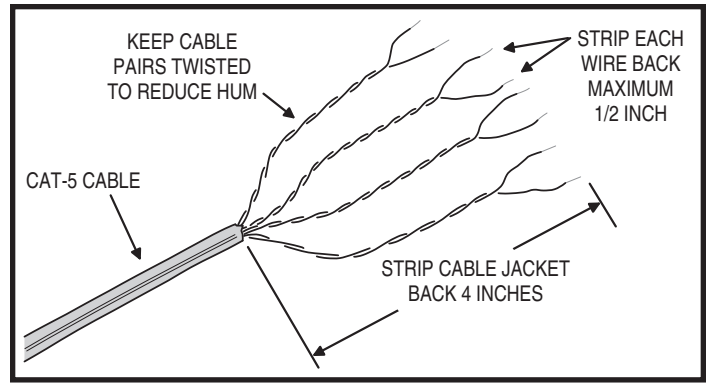

Figure 2. Cat-5 Wire Preparation
2. At each Room Station location, strip approximately 4 inches of jacket from the Cat-5 cable and separate the colored wires. Strip 1/2 inch of insulation from each wire as shown in Figure 2.
1. At each Patio Station location, strip approximately 4 inches of jacket from the Cat-5 cable and separate the colored wires. Strip 1/2 inch of insulation from each wire as shown in Figure 2.